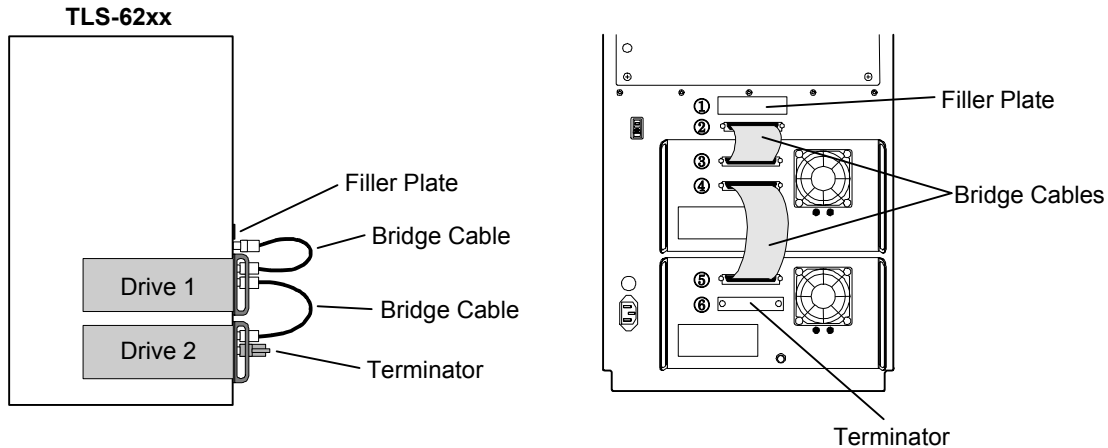
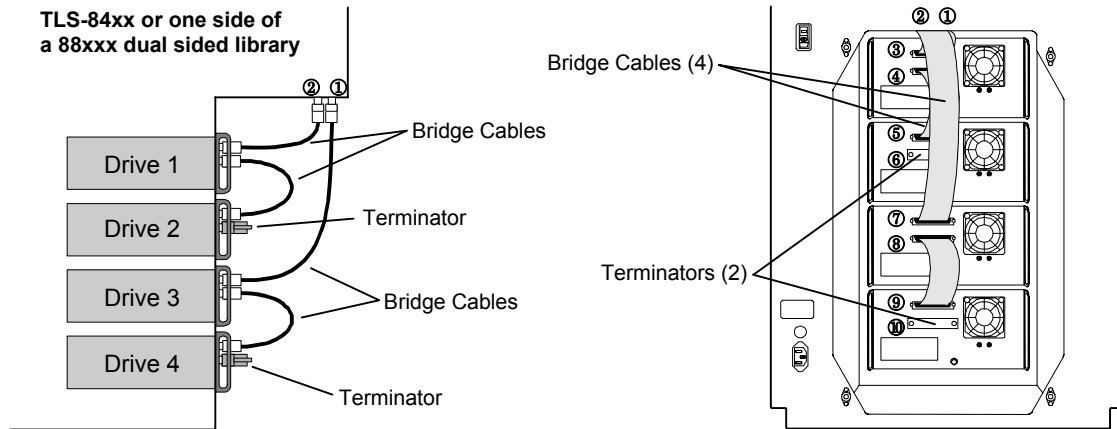

Figure 4-1 TLS-62xx and 82xx Drive Cabling Diagram
Figure 4-2 TLS-54xx, 58xxx, 64xx, 68xxx, 84xx and 88xxx Drive Cabling Diagram
After the tape drive assemblies have been installed the following steps outline the actions necessary to properly cable the tape drives prior to FCO installation. See Figure 4-1 and Figure 4-2.
2. Attach a terminator at connector 6 as shown in Figure 4-1.
3. Connect a SCSI Bridge Cable from connector 2 to the top tape drive as shown at connector 2 and 3 in Figure 4-1.
4. Connect a Bridge Cable Connector to the top and bottom tape drives as shown at connectors 4 and 5 in Figure 4-1.
6. Connect a Bridge Cable Connector to tape drives T1 and T2 as shown at connectors 4 and 5 in Figure 4-2.
7. Connect a Bridge Cable Connector to tape drives T3 and T4 as shown at connectors 8 and 9 in Figure 4-2.
8. Attach a terminator at connectors 6 and 10 as shown in Figure 4-2.
9. Connect the shorter Changer SCSI Bridge Cable from connector 2 to the top tape drive as shown at connector 3 in Figure 4-1.
10. Connect the longer Changer SCSI Bridge Cable from connector 1 to tape drive D3 as shown at connector 7 in Figure 4-1.
12. For TLS-62xx and 82xx libraries only, connect the SCSI Bus ribbon cable (labeled CH1) from connector 2 as seen in Figure 4-1 to the CH1 connector on the Fibre Channel Option. See Figure 4-10. Skip to step 12.
13. For TLS-54xx, 58xxx, 64xx, 68xxx, 84xx and 88xxx libraries only, connect the SCSI Bus ribbon cable (labeled CH2) from connector 2 as seen in Figure 4-2 to the CH2 connector on the Fibre Channel Option. Connect the SCSI Bus ribbon cable (labeled CH1) from connector 1 as seen in Figure 4-2 to the CH1 connector on the Fibre Channel Option. See Figure 4-10.